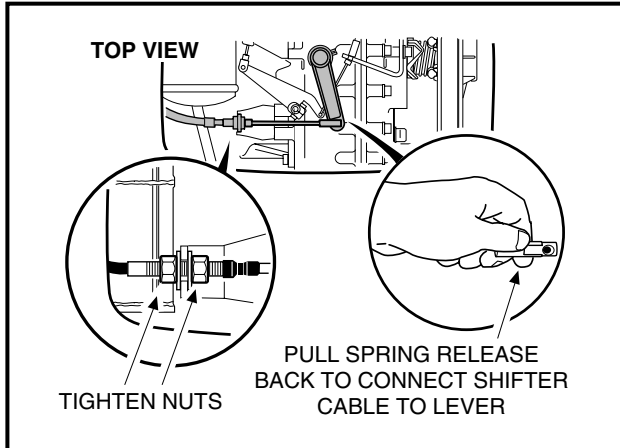

FIGURE 10-98
20. Position the shifter cable in the shifter cable mounting bracket on the transaxle and use two 11/16" wrenches to tighten the mounting nuts. Then connect the shifter cable rod end to the shifter arm (**Figure 10-98, Page 70**).